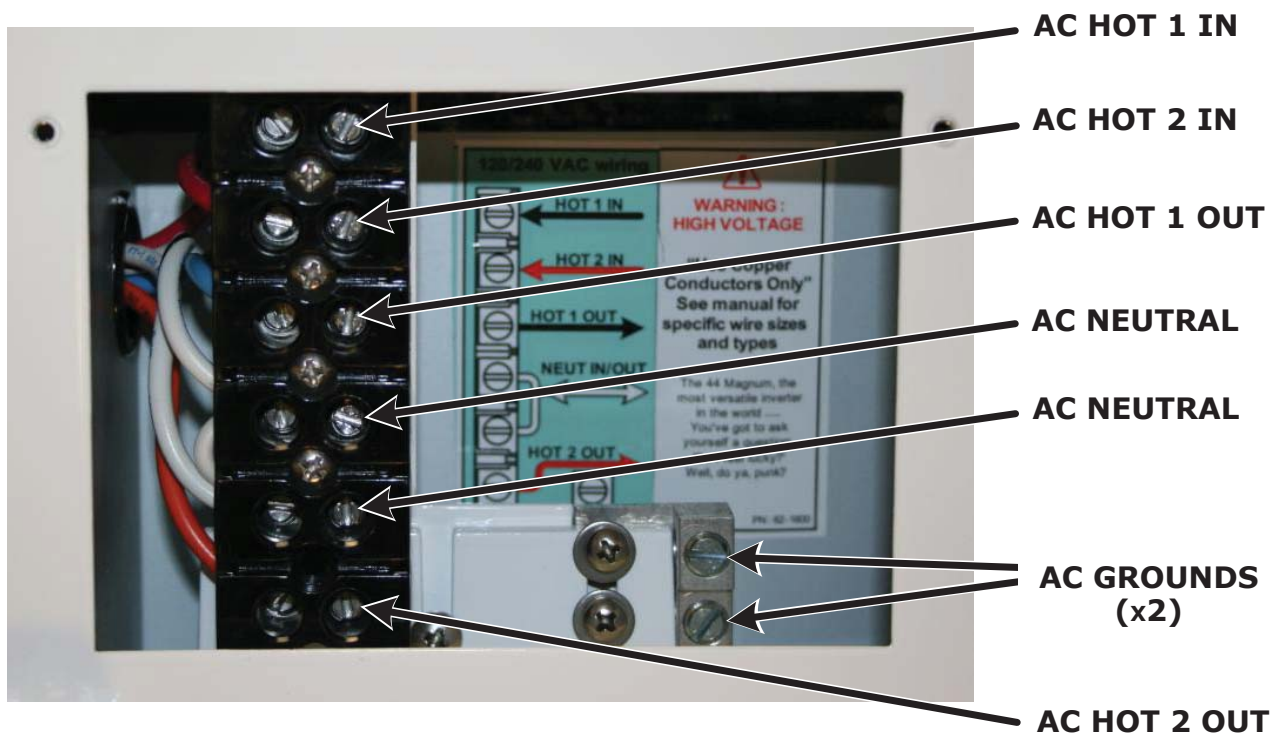

Figure 2-8, AC Terminal Block
The MS-PAE Series provides a terminal block (see Figure 2-8) that allows the AC input and output wiring to be permanently installed. This terminal block allows a service/distribution panel (main panel) to be wired to the inverter's input, and a dedicated panel (sub-panel) to be wired between the inverter's output wiring and the AC loads. These systems use the circuit breakers provided in the panels as the overcurrent protection and the AC disconnect device.
**AC Side** – Where the AC output from the inverter is connected to an AC load center, there should be an equipment grounding conductor connected between the inverter case and the grounding point in the AC load center. The AC equipment grounding conductor (EGC-AC) is sized per Table 2-4 and is connected to the inverter’s AC equipment grounding terminal shown in Figure 2-8.